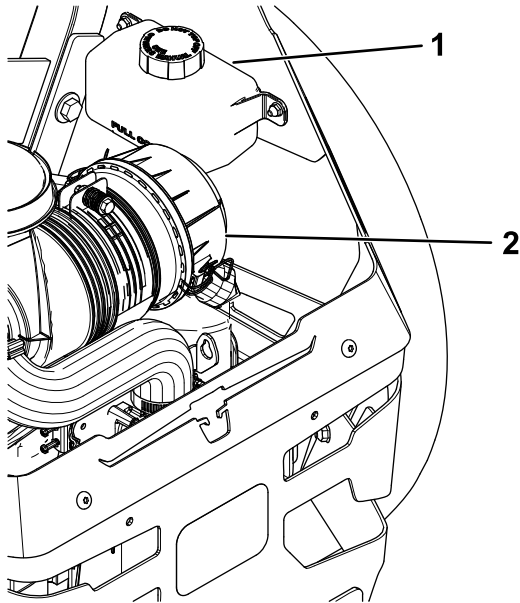

Figure 72
2. Check expansion reservoir and if necessary add Toro® HYPR-OIL™ 500 hydraulic fluid to the FULL COLD line (Figure 72).